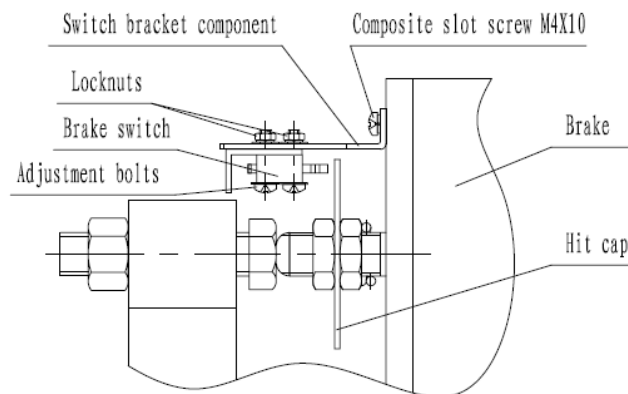

Figure 23 Normal Brake switch mounting
3. Loosen the Composite slot screw M4x10 using a Phillips head screwdriver, then remove the broken switch with bracket. See Figure 23.